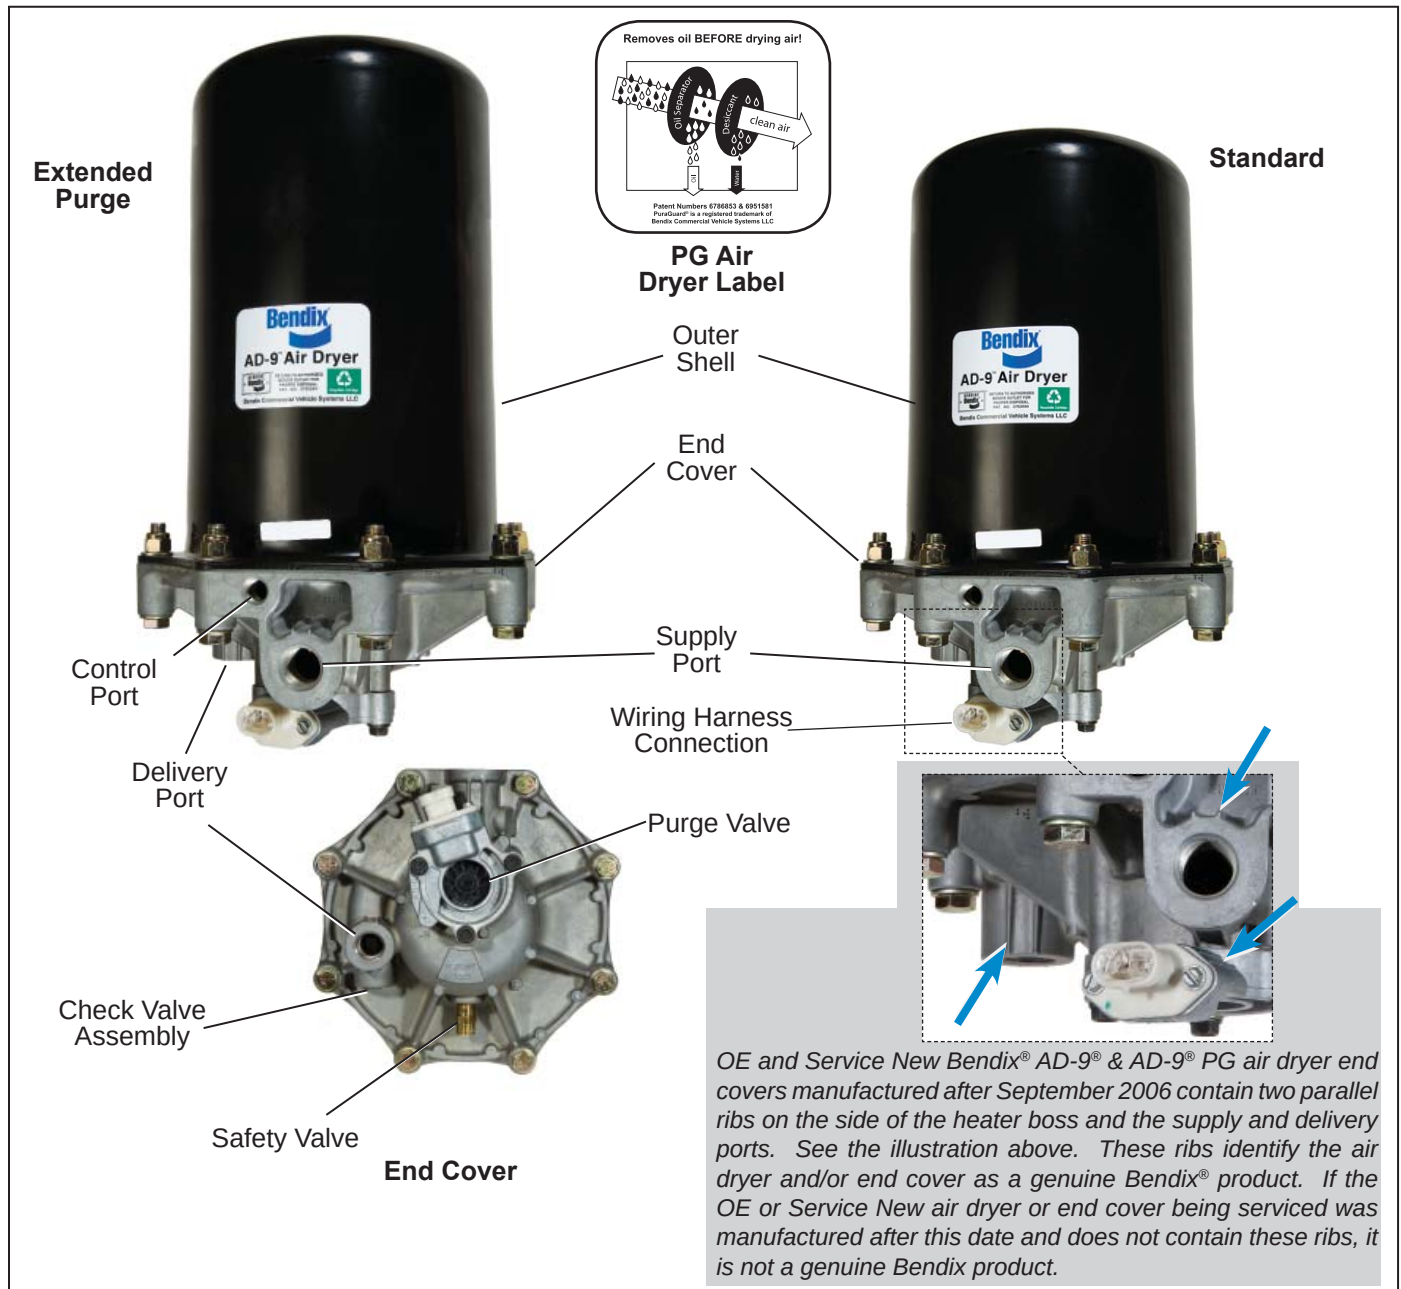

Figure 1 – Bendix® AD-9® & AD-9® PG (with PuraGuard® Oil Coalescing Filter) Air Dryers
AD-9 air dryer. The AD-9 PG air dryer has all the same functions of the standard AD-9 air dryer, and is used where oil is contaminating downstream components. The Bendix AD-9 PG air dryer can be identified by the PG label (shown in Figure 1) located on the air dryer housing.
3. Identify and disconnect the three air lines from the end cover and note the position of the end cover ports relative to the vehicle. *See Figure 1.*